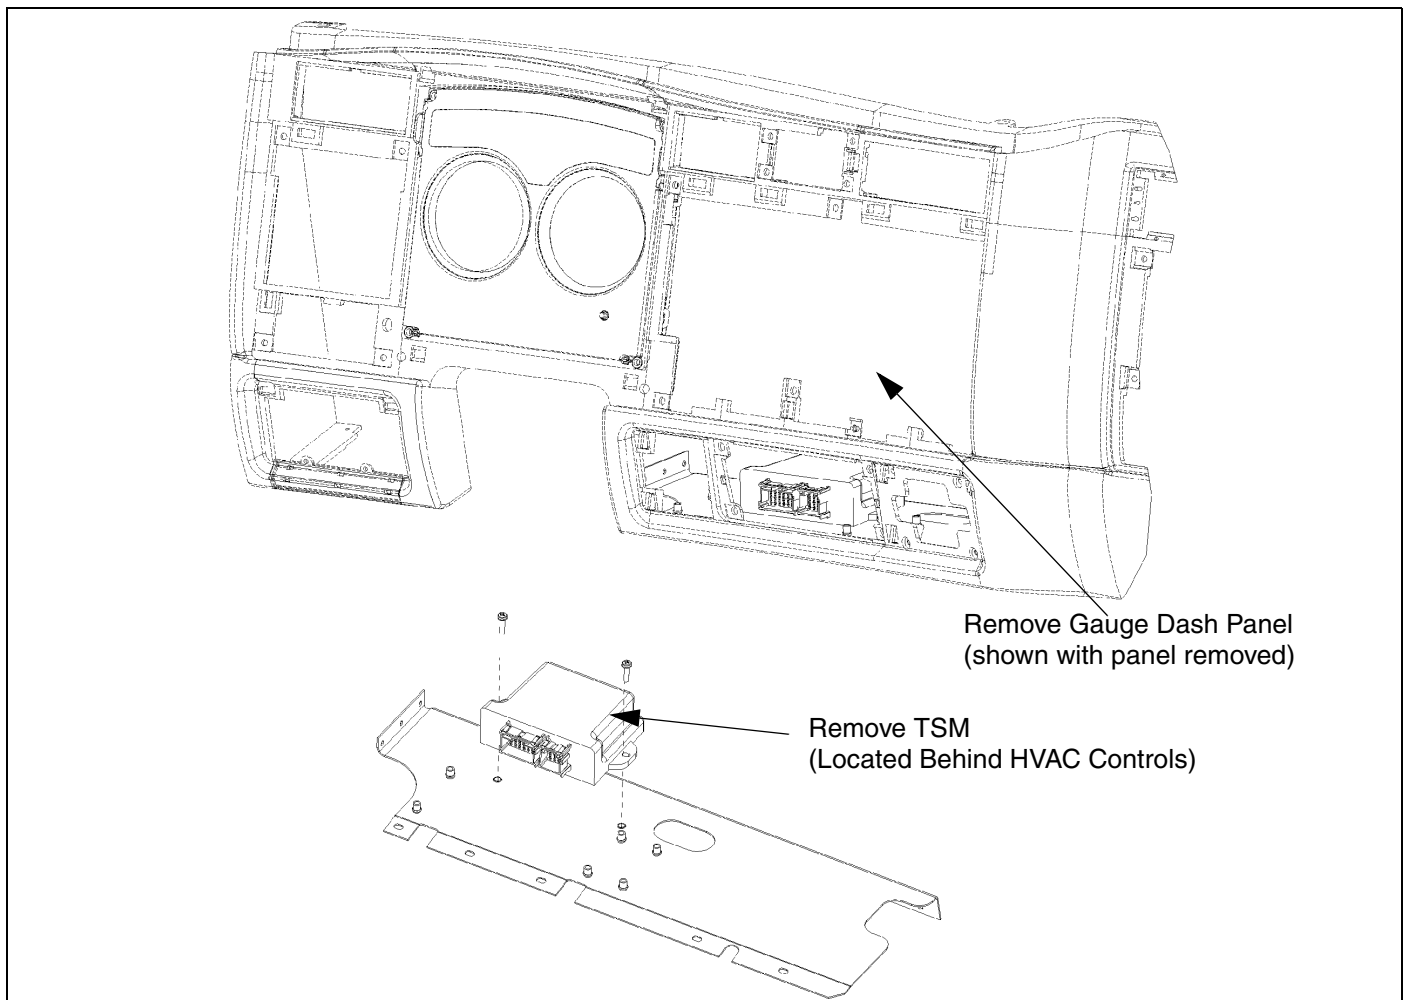
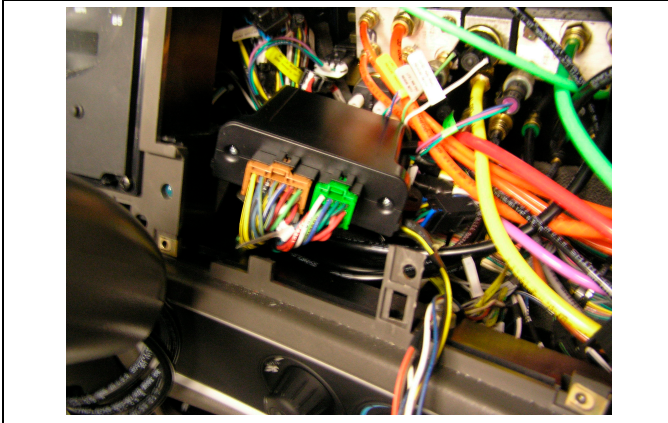

Figure 15-4
Figure 15-5
- Remove 2 fasteners securing the TSM to the lower dash support tray. Move the module up and out to gain access to the harness connectors. See Figure 15-4 and Figure 15-5.